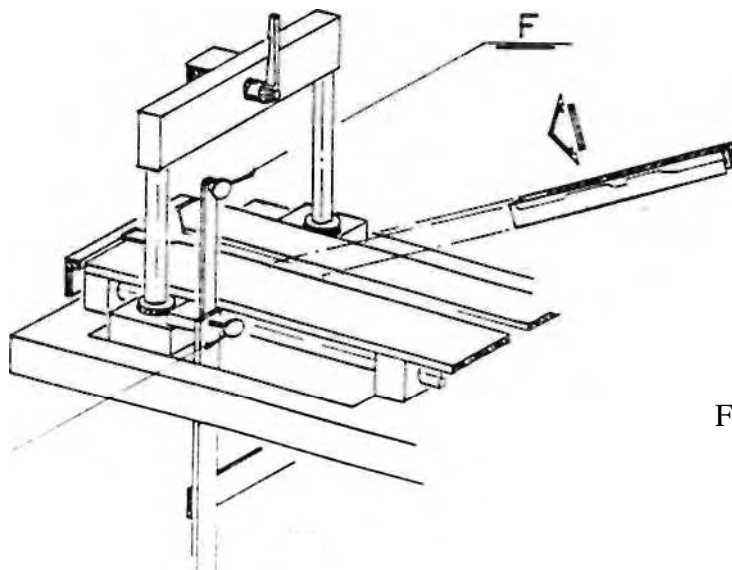

FIGURE 7
- 2 - Loosen lock nut Ref. G on the tension bar Ref. F and lift the bar (Fig. 7) to its fullest extent.